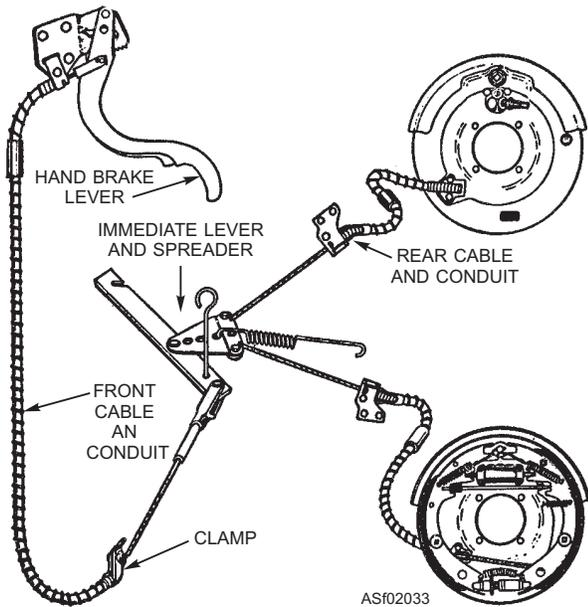

Figure 2-33.—Mechanical brake system—cables.
**COMPONENTS AND OPERATION.**—Figure 2-33 illustrates a typical mechanical system for the operation of parking or emergency brakes. This is simply a secondary means of controlling the rear wheel brakes. Variations of this arrangement are used to operate the parking brakes on some powered support equipment.
Transmission parking brakes (fig. 2-21) are usually operated by a similar cable mechanism. However, only a single cable, such as the one labeled "front cable and conduit" in figure 2-33, is necessary for this operation.